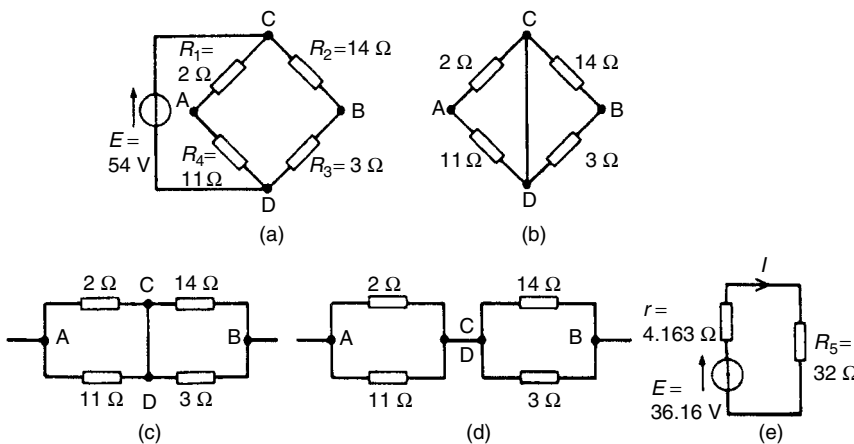

Figure 13.47
- (i) The 32 Ω resistor is removed from the circuit as shown in Fig. 13.47(a)
- (iii) Replacing the source of e.m.f. with a short-circuit (i.e. zero internal resistance) gives the circuit shown in Fig. 13.47(b). The circuit is redrawn and simplified as shown in Fig. 13.47(c) and (d), from which the resistance between terminals A and B,
- (iv) The equivalent Thévenin's circuit is shown in Fig. 13.47(e), from which, current